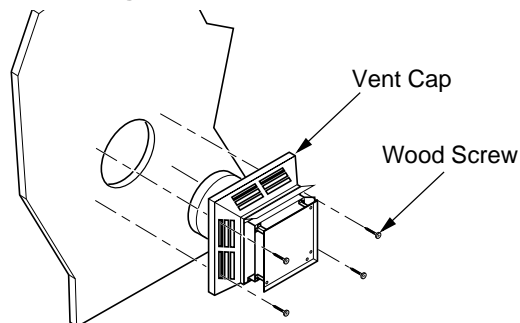

Figure 18 - Installing Horizontal Vent Cap
4. **Noncombustible Exterior Wall:** Apply a bead of non-hardening mastic around the outside edge of the vent cap. Position the vent cap in the center of the 7 1/2" (19.1cm) hole on the exterior wall with the arrow on the vent cap pointing up. Attach the vent cap with four wood screws provided (see Figure 18). **Note:** Replace the wood screws with appropriate fasteners for stucco, brick, concrete, or other types of siding.